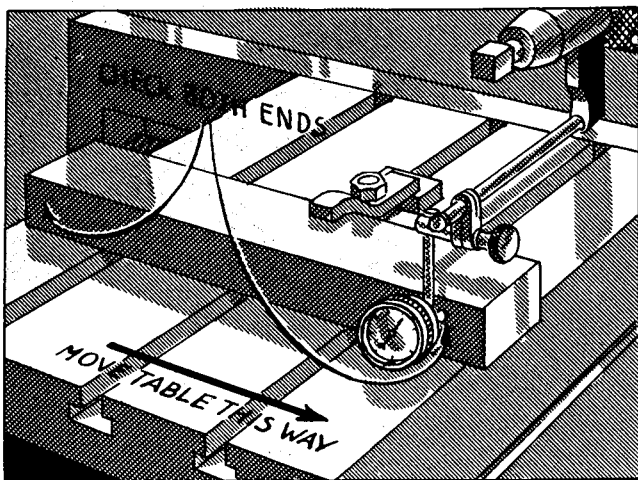

FIG. 307
12. To align the work very accurately, use a dial indicator instead of a square. Clamp it in the tool post (page 134, Fig. 163) with its contact point against the front face of the work. Then move the work crosswise by means of the cross-feed screw to determine the amount of misalignment, and subsequently adjust the work in the same manner as before, until the indicator hand remains stationary during movement of the work from side to side (Fig. 307).